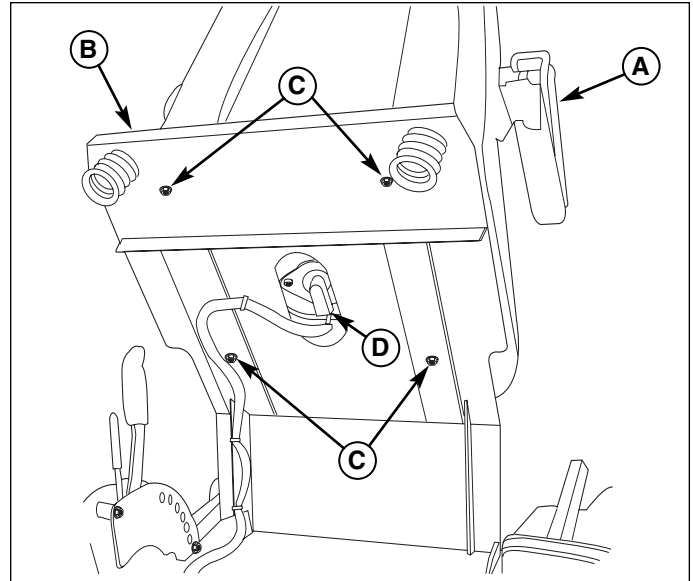

Figure 3. Seat Installation
1. Mount the seat (A, Figure 3) to the seat plate (B) using four 5/16-18 nylock flange nuts (C) and tighten securely.
2. Connect the seat switch wire harness (D) to the seat switch.